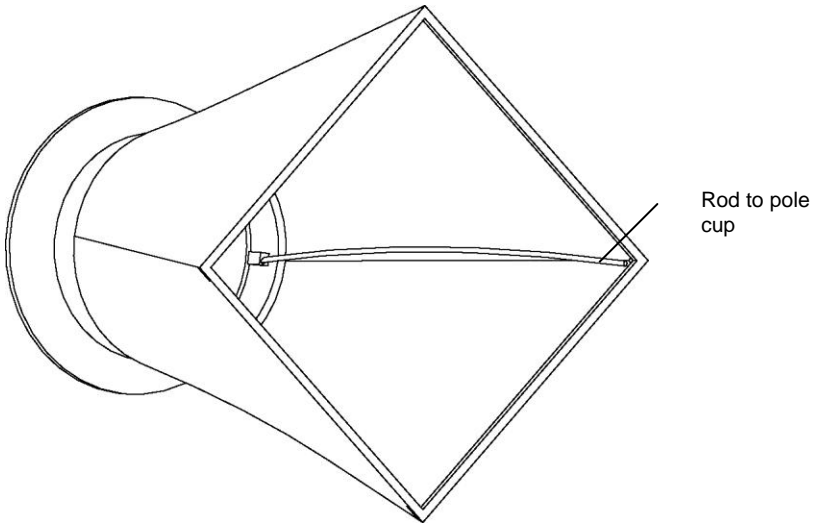

Figure 5: Installing a Support Pole
- 3 Grasp the support pole. Bend the pole slightly to insert the top end of the pole into the support pole cup located in the corner of the fabric frame as shown in Figure 5.